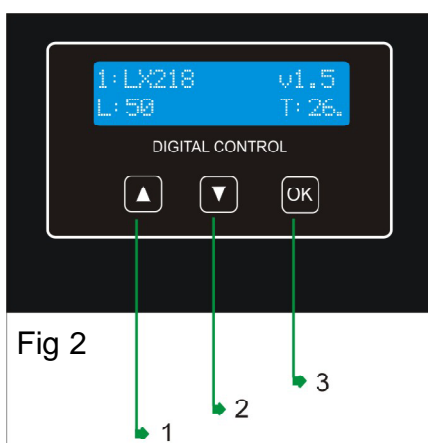
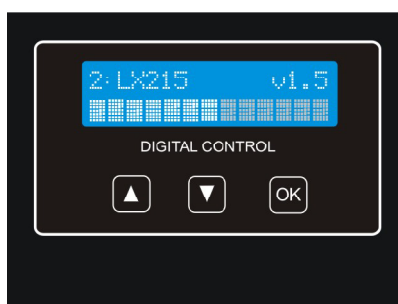
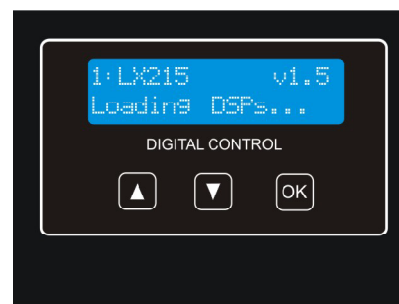

Fig 2
Fig 3
Fig 4
To change the preset configuration just press the up button (1) and down button (2) until you see the title and preset number required (Fig2). Once found, press OK (3) until the progress bar finishes (Fig3). The display will indicate "Loading DSP" (Fig4)